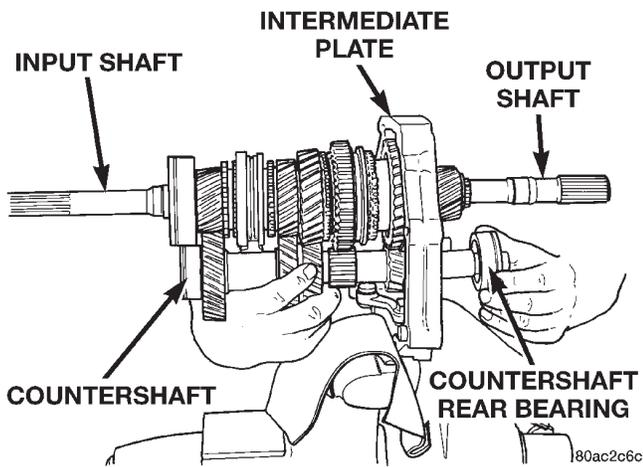

Fig. 62 Remove Countershaft and Countershaft Rear Bearing
(16) With aid of an assistant, support the mainshaft and countershaft. Tap on the rear of the mainshaft and countershaft with a suitable plastic mallet. This will release the countershaft from the countershaft rear bearing and the mainshaft rear bearing from the intermediate plate. The countershaft will release from the countershaft bearing first and can be removed by moving the countershaft rearward and downward (Fig. 62).